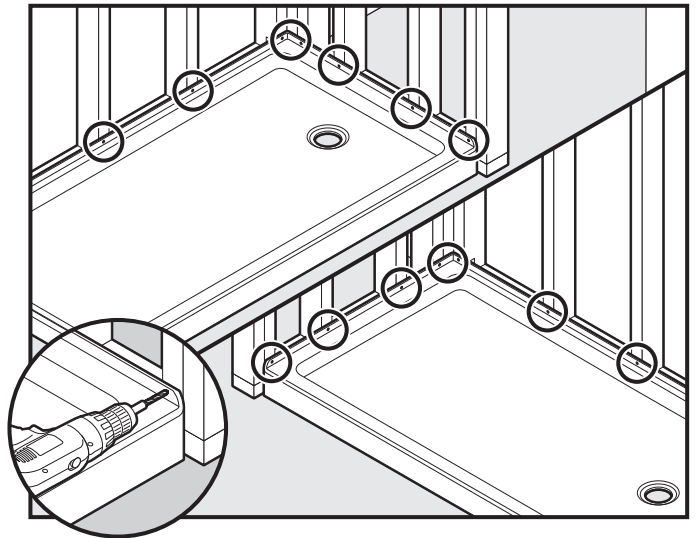

Fig. 3
- Drill 3/16" holes at all stud locations on top flanges.(Fig 3)